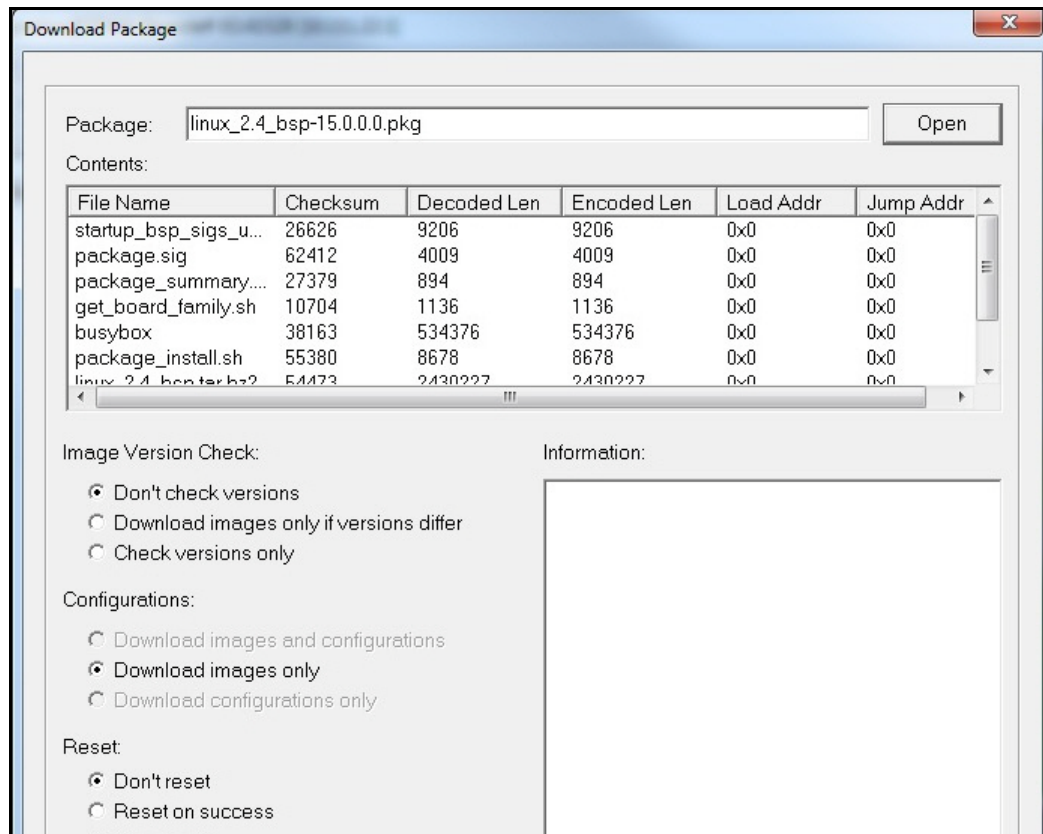

Figure 15. Download Package Dialog Box Settings
6. In the Download Package dialog box (Figure 15), select the following options: